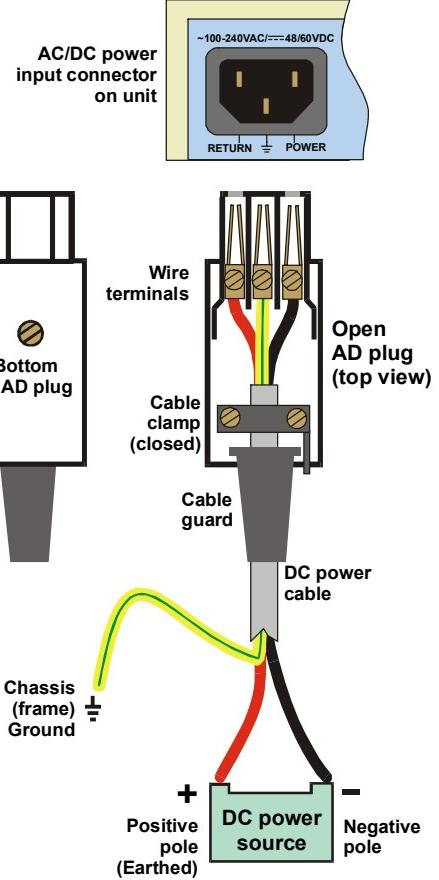

Figure 1
For DC operation, a compatible AC/DC Adapter (AD) plug for attaching to your DC power supply lines is used (see *Figure 1*).